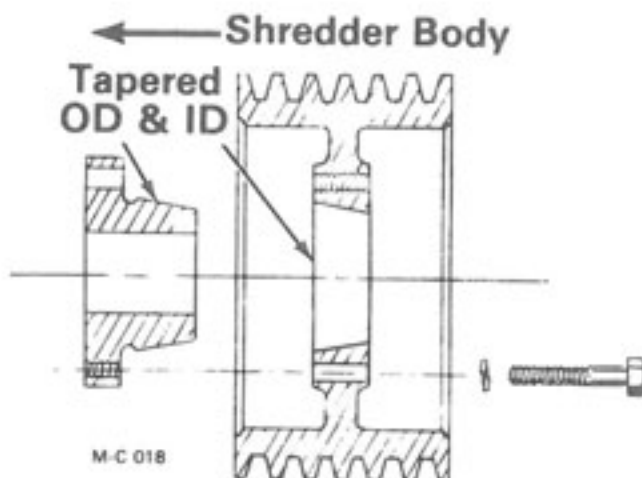

Figure 36
6. Place the bushing into the pulley from the back so that the bushing flange is to the inside, see Figure 36. The bushing and the bore of the pulley are tapered. Be sure to install the bushing into the large ID of the pulley tapered bore. If the bushing is installed into the small ID of the pulley, the pulley hub will crack when the mounting capscrews are tightened.